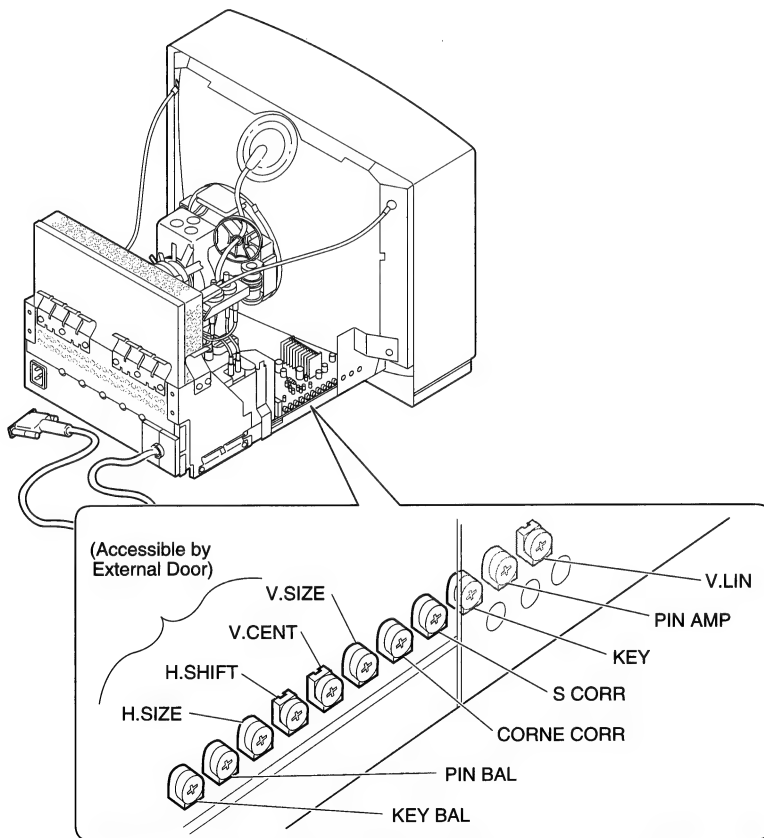

Figure 5 Horizontal and Vertical Controls
2. FIGURE 5. Turn the H.SIZE control until the width of the raster is 300 mm (± 3 mm) or 11 7/8" ($\pm 1/8$ ") wide.
3. FIGURE 5. Turn the H.SHIFT control until the raster is centered horizontally within the bezel.
4. FIGURE 5. Turn the KEY control until the left and right sides of the raster are parallel to each other.
5. FIGURE 5. Turn the KEY BAL control until the left and right sides of the raster are parallel to the bezel.
6. FIGURE 5. Turn the PIN AMP control until the left and right sides of the raster are as straight as possible.
7. FIGURE 5. Turn the PIN BAL control until the left and right sides of the raster are as straight as possible.
8. FIGURE 5. Turn the CORNE CORR control until the left and right sides of the raster are as straight as possible in the four corners of the screen.
9. FIGURE 5. Turn the S CORR control until the left and right sides of the raster are as straight as possible in the four corners of the screen.
1. FIGURE 5. Turn the V.SIZE control until the raster is 225 mm (± 3 mm) or 8 7/8" ($\pm 1/8$ ") high.
2. FIGURE 5. Turn the V.CENT control until the raster is centered vertically within the bezel.
3. FIGURE 5. Turn the V.LIN control until the rectangles at the top and bottom of the raster are the same size.